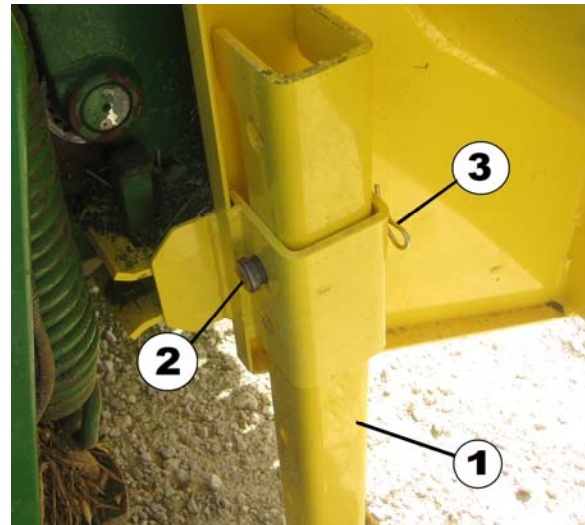

Figure 9. Support Stands
6. Raise both support stands to the storage position (the bottom set of holes). See Figure 9.